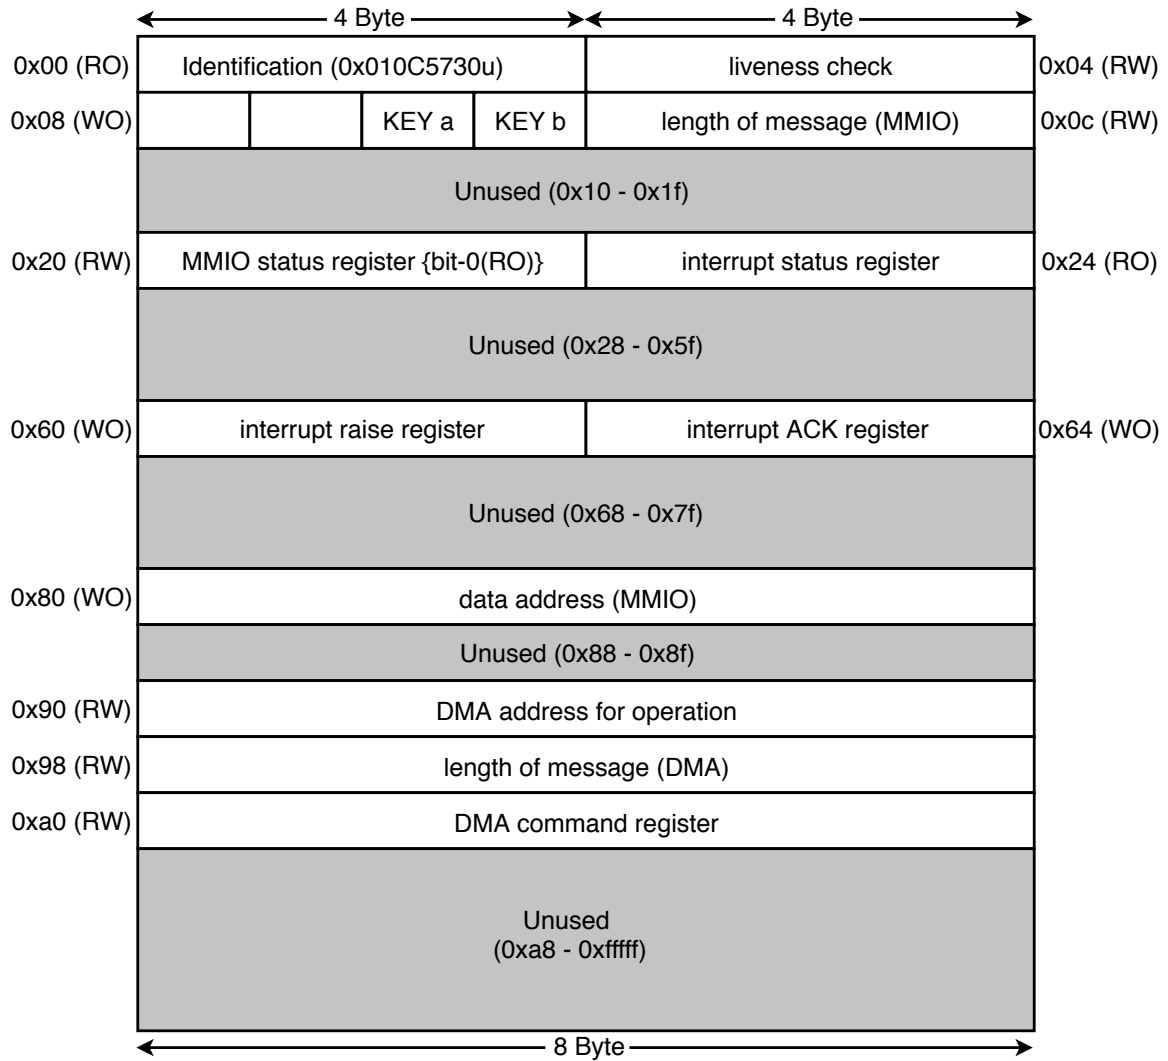

Figure 1: CryptoCard memory region.
Figure 1 shows the one MB of input/output memory layout that is used to communicate with the CryptoCard. As mentioned previously, the 1MB region can be accessed using MMIO through the PCI BAR0. Device has registers of two sizes —(i) 4 byte, and (i) 8 byte. Device input/output memory below address 0x80 can only accommodate 4 byte while addresses above 0x80 can accommodate 8 byte of data at a time. As shown in Figure 1, operation on device registers or memory regions can be performed on three ways, i.e., (i) read only (RO), (ii) write only (WO), and both read & write (RW). Some of the memory regions of the CryptoCard is unused, that can be utilized by the device driver if needed.